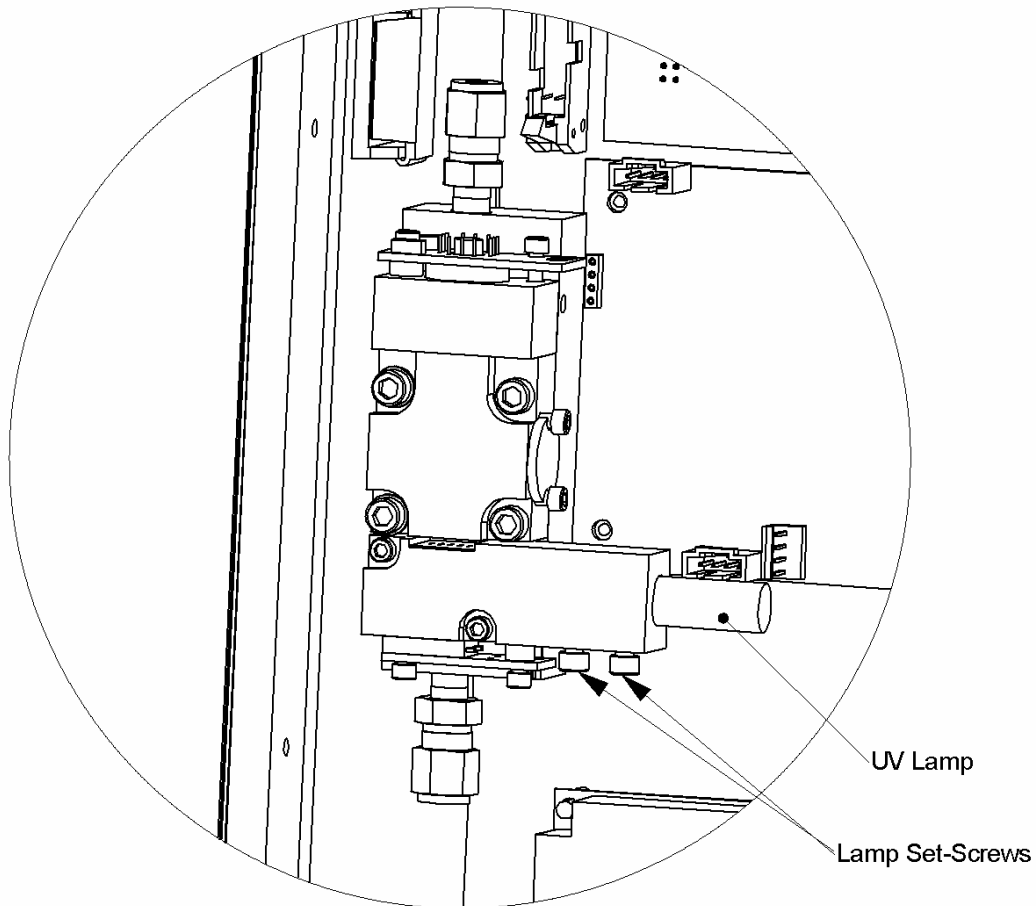

Figure 9-4 Location of UV Lamp Set Screws
2. Loosen, but do not remove, the two lamp set-screws (see Figure 9-4 below.)